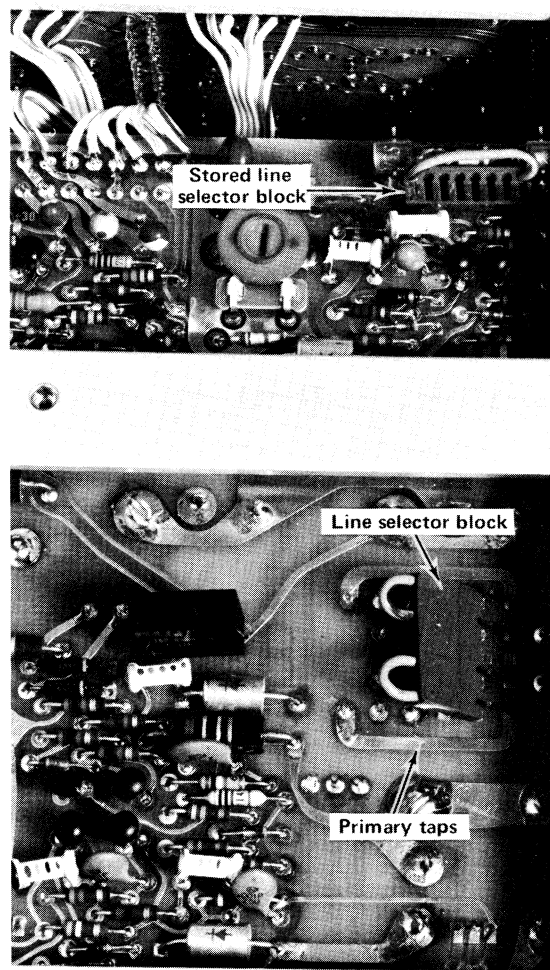

Fig. 0-1. Location of the line-selector block on the Power Supply circuit board.
3. To convert from 120 volts to 220 volts nominal line voltage, or vice versa, remove the line-selector block from the square-pin connectors (see Fig. 0-1) and replace it with the other block. Remove the line fuse from the fuse holder located on the rear panel of the display module and replace it with one having the correct rating. The unused line-selector block and line fuse can be stored on the Power Supply circuit board. Change the line-cord power plug to match the power-source receptable or use an adapter.